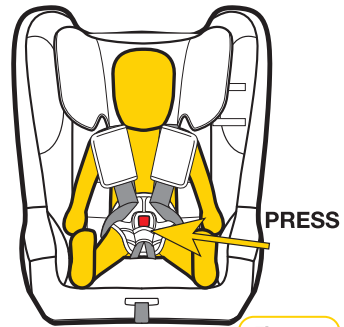

Figure 1
**Step 1:** To release your child from the restraint simply press the red button on the harness buckle and carefully remove your child from the restraint (refer Figure 1).